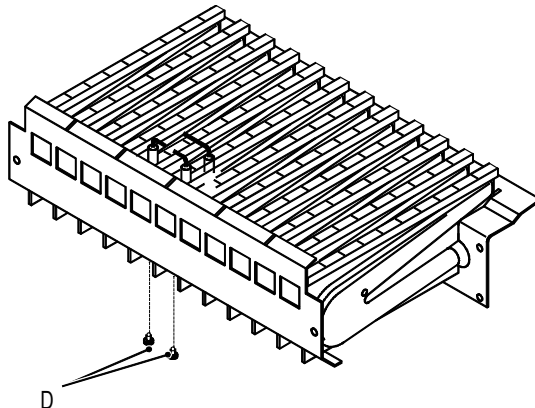

Figure 6
- 7) Unscrew the screws D (Figure 6) which hold the electrodes to the burner.